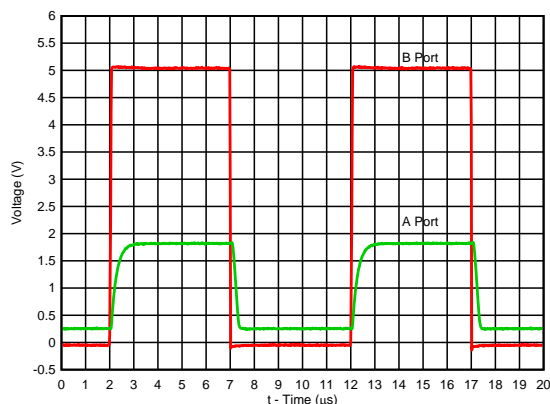

**Figure 13. DDC/CEC Level Shifter Block Diagram**
- The threshold of CMP1 (see Figure 13) is approximately 150 mV  $\pm$  the 40 mV of total hysteresis.